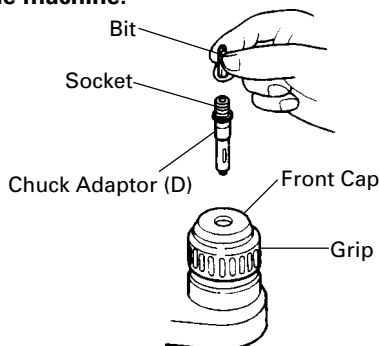

Fig. 10
### 4. When driving machine screws (Fig. 10)
- Do not attempt to use the rotary hammer in the rotation and striking function with chuck adaptor (D) and bit attached.
5. When driving wood screws (Fig. 10)